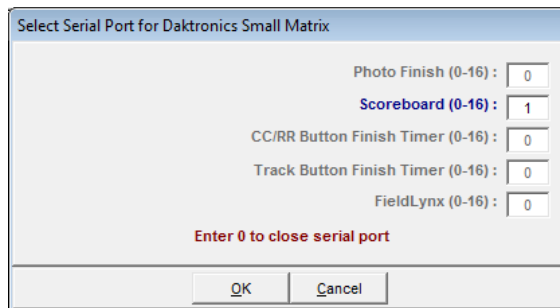

Figure 21: Serial Port for Daktronics Small Matrix
6. For the *Scoreboard (1-16)* option (*Figure 21*), select the COM port number on the Hy-Tek computer that will output Standard RTD, and then click **OK**.